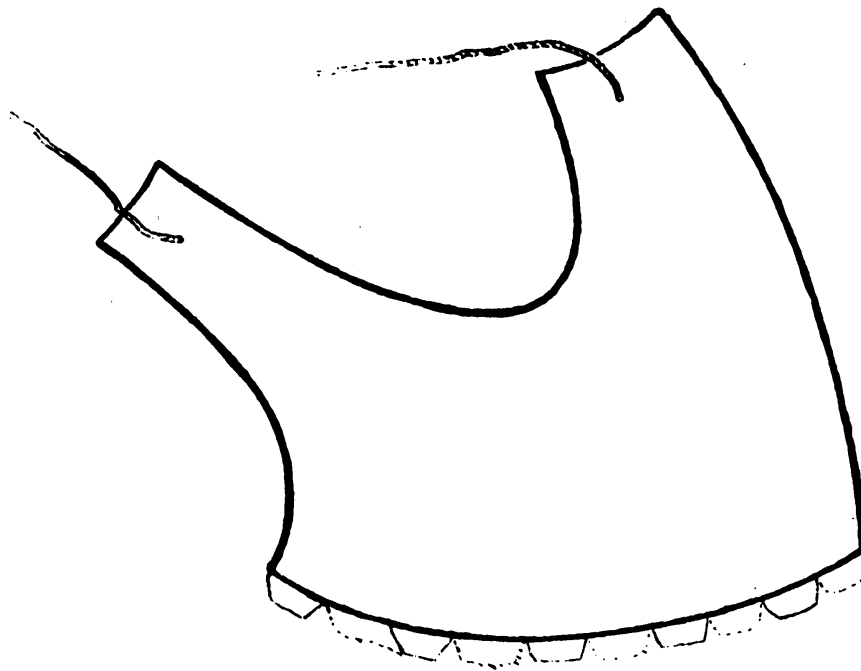

FIG. 12.
*The Breastplate.*—While there is really less to do, and fewer sections to adjust, this presents quite as much difficulty as the helmet. It is best made in two sections. The exact shape can only be decided by trial: roughly, it is that shown in Fig. 12. The best method of procedure is to cut out two of these in newspaper, and fix them together with doll-pins, and then try them on in much the same way as a tailor fits a waist-coat—altering pins and cutting out shapes until the requisite fit is obtained. When this is done the two final sections can be cut out in cardboard (not omitting flanges), glued together and painted. If you are good at painting, you can ornament the two sides with a heraldic device in crimson or gold.